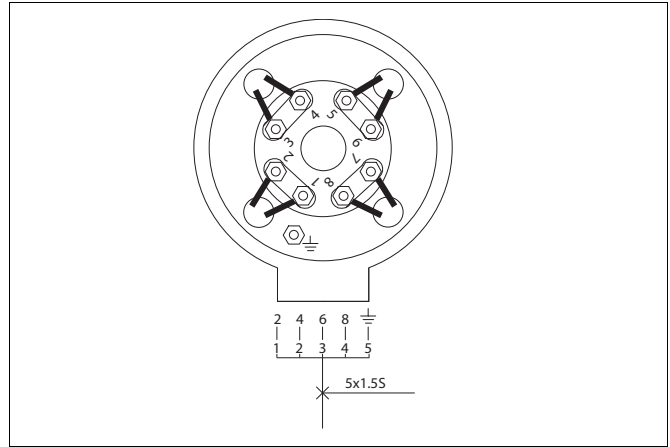

Fig. 8 Connection for step motor
- ☐ In login window (Fig.8) set the interface and baud-rate (COM1, 28800 Baud)